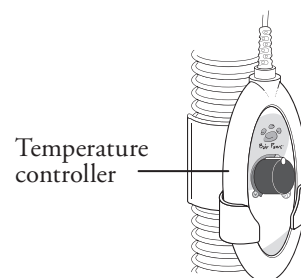

Figure 8. Temperature controller seated in holder.
2. Slide the temperature controller into the holder. It should fit securely with the dial facing the patient (see Figure 8).